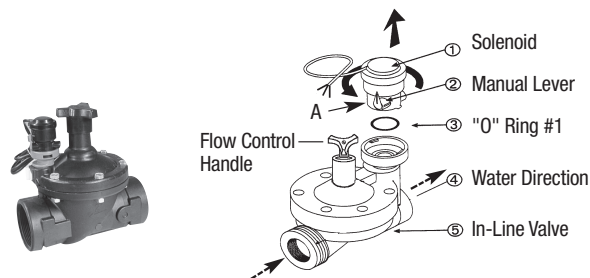

Figure 5
- (See Figure 5). Before installing the valve [5] in the irrigation system flush the mainline in case any debris is present. Then remove the solenoid [1] from the valve with a 90° counter clockwise turn. Be careful not to lose the seal ("O" Ring #2) [3].
- (See Figure 5). Install the valve in the irrigation system paying attention to the correct water flow direction, as indicated by the arrow [4].
- (See Figure 5). After installing the valve [5], attach the solenoid [1] with a 90° clockwise turn. Be sure to place the seal ("O" Ring #1) [3] in its proper location.